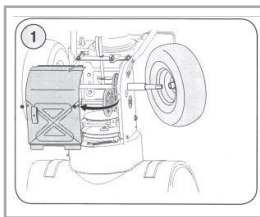

Fig.32
3. Carefully remove the hex nut and washer which secures. See Figure 32. The hex shaft to the snow thrower frame and lightly tap the shaft's end to dislodge the ball bearing from the right side of the frame.